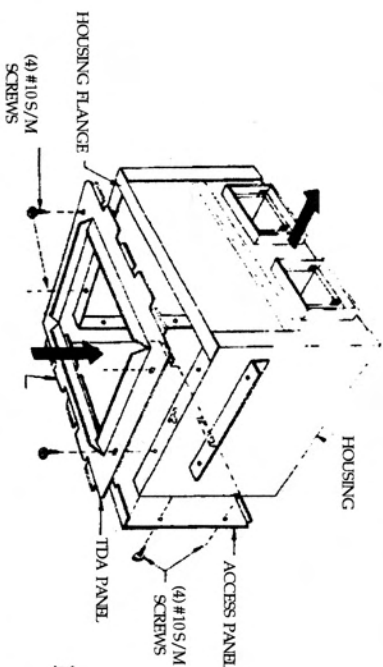

FIG.4
- 2) REASSEMBLE BOTH THE TDA AND ACCESS PANELS AFTER EXCHANGING LOCKING TABS OF THE TDA PANEL INTO THE HOUSING FLANGE. NEXT ENGAGE THE ACCESS PANEL RETURN FLANGE INTO THE 3 LOCKING TABS ON THE TDA PANEL. FINALLY REINSTALL THE EIGHT #10 SCREWS. SEE FIG. 4.